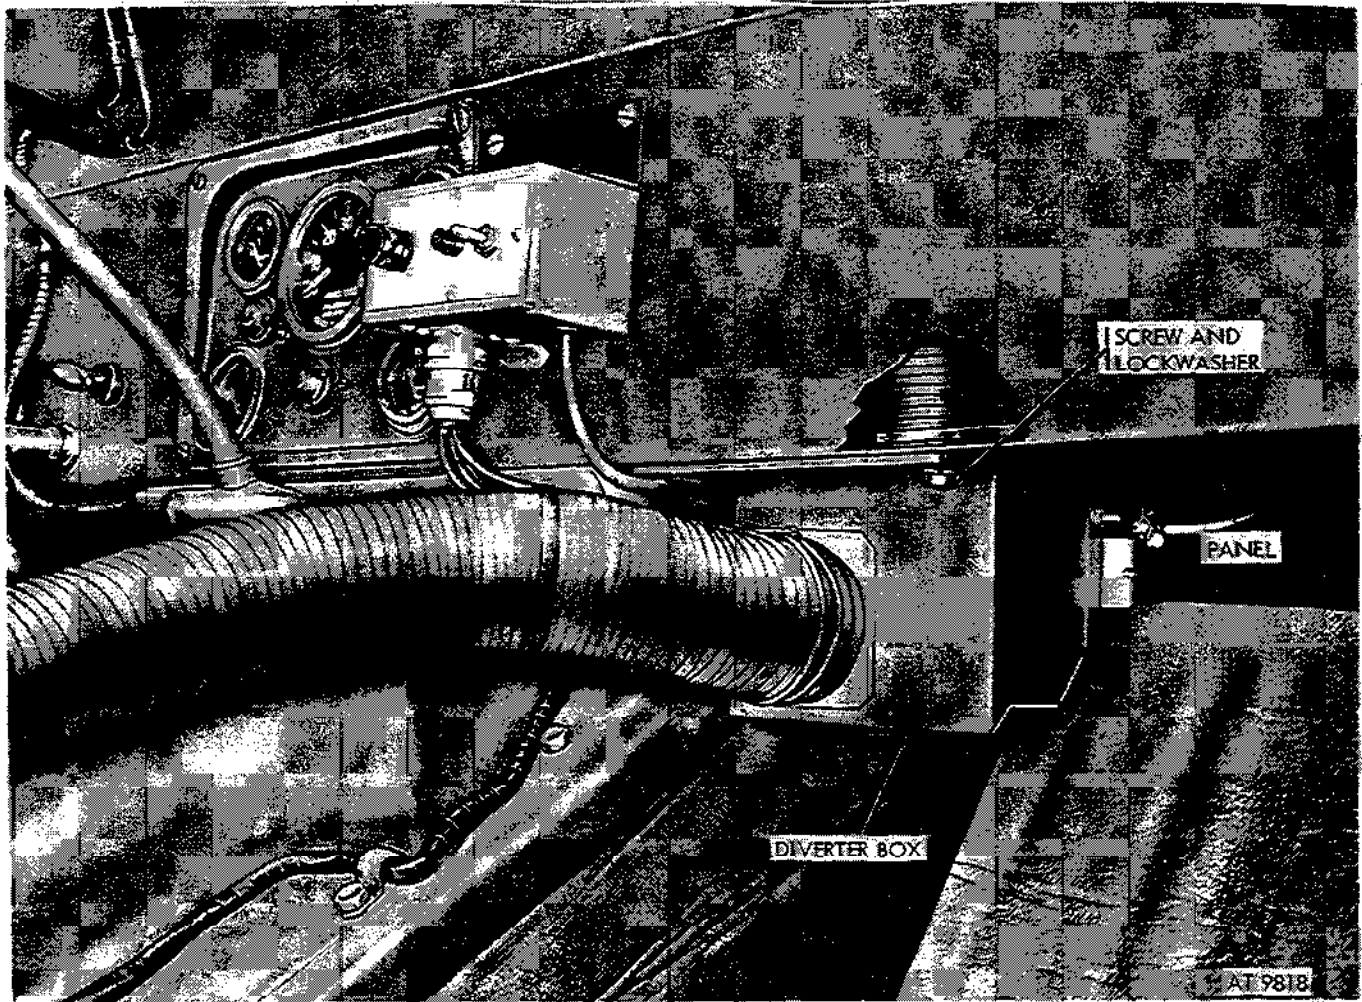

Figure 3-11. Defroster diverter installed.
a. Removal. Refer to figure 3-11.
(1) Loosen three clamps retaining hoses to diverter assembly and remove hoses.
(2) Remove two mounting screws, washers, and nuts.
b. Installation. Refer to figure 3-11.
(1) Attach diverter assembly to lower lip of dash panel with two screws, washers, and nuts.
(2) Position clamp and connect hose from heater to inlet at bottom of diverter. Tighten clamp screws.
(3) Connect Hose from left defroster nozzle to left top of diverter. Tighten clamp screw. Connect hose from right defroster nozzle to right top outlet of diverter. Tighten clamp screw.